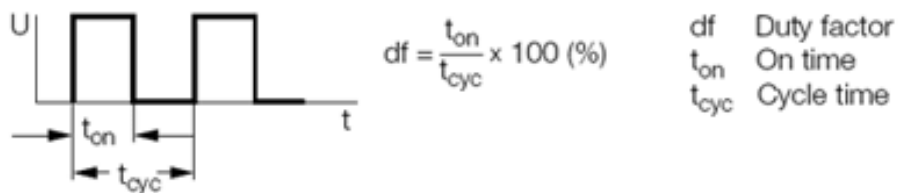

Figure 14. Duty cycle reference
- Complete the following (use Figure 14 as your reference):